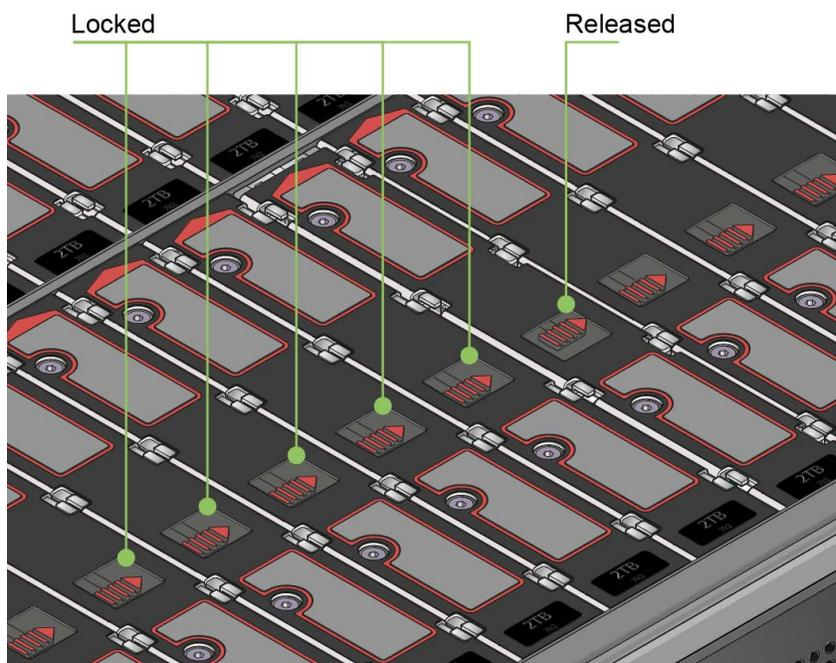

Figure 94. Latch Position of a Correctly Inserted Drive
4. Check that the release latch has returned to its locked position, as shown in Figure 94 “Latch Position of a Correctly Inserted Drive” on page 88.